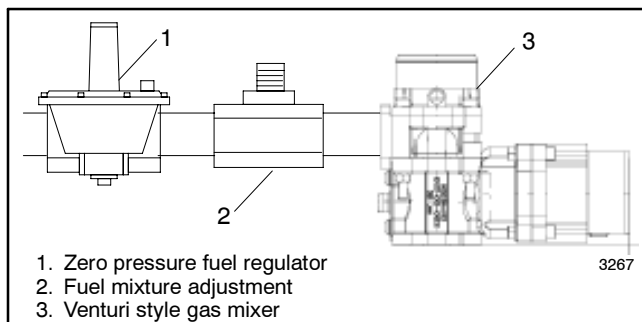
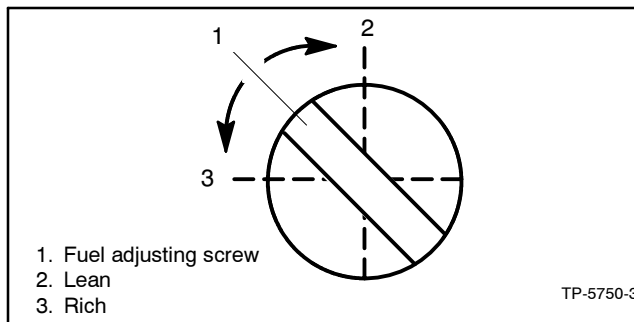

Figure 7-44 30–60 kW with Venturi Style Fuel Mixer
Figure 7-45 Fuel Mixture Adjustment, Typical
- a. **30–60 kW generator sets.** Venturi style gas mixer used with an integrated throttle body governor on 4.3 L, 5.0 L, and 5.7 L GM engines. Also similar to the IMPCO model 100 used on the 30 kW with 3.0 L GM engine. See Figure 7-44.
- Adjust the fuel mixture adjustment (see Figure 7-44 and Figure 7-45) to obtain a full load oxygen sensor voltage reading in the range specified in Figure 7-40.
- Adjust the zero pressure regulator (see Figure 7-44 and Figure 7-45) to obtain a no load oxygen sensor voltage reading in the range specified in Figure 7-40.
- Adjust the fuel regulator adjustment screw to the approximate midpoint of its adjustment range. See Figure 7-45.